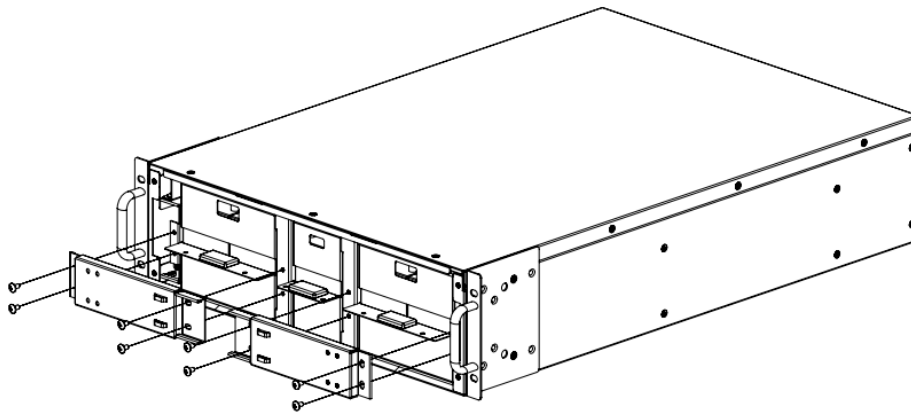

Figure 31: Remove the Battery Baffles
23. Remove the battery baffle screws and baffles and retain (see Figure 31).